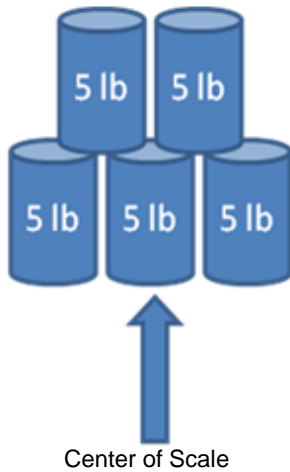

Figure 4-2 *Weight Calibration Configuration for Pounds*
- a. Place 25 lb weights on the scanner as shown in Figure 4-2; three 5 lb weights centered on the center of the scale, and two 5 lb weights centered on top.